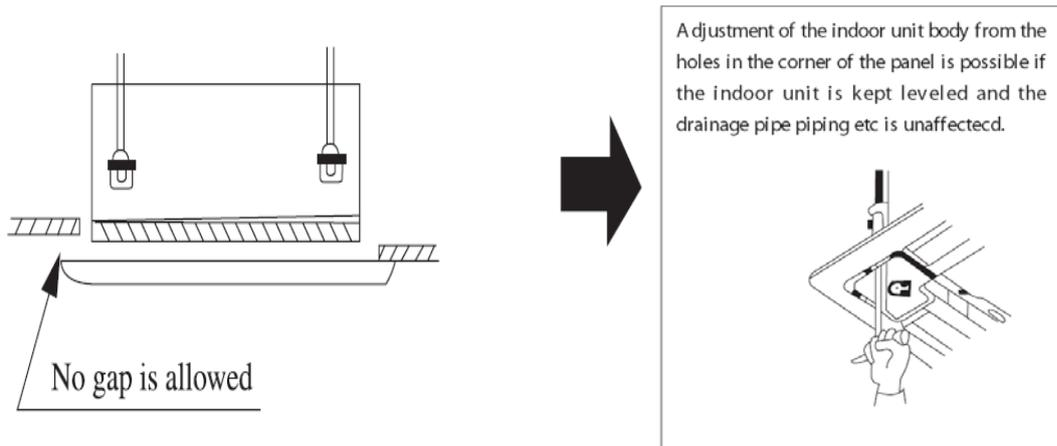

Fig.6
2. If gap is still left between the ceiling and the panel after screwing the screws, readjust the height of the indoor unit body (Refer to Fig.6)